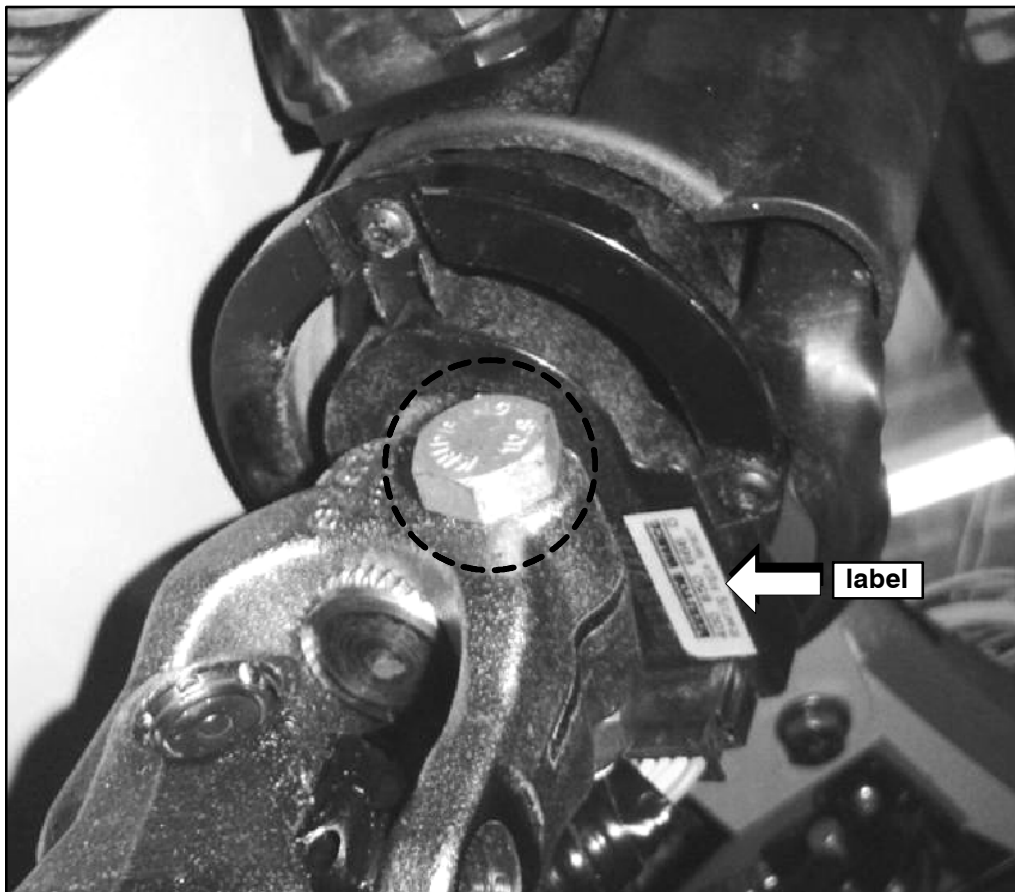

Figure 2.
4. Locate the steering angle sensor serial number label ( refer to Figure 2 ).
7. Locate and remove the clamp bolt and nut that secures the universal joint yoke to the steering column shaft ( refer to Figure 2 ).